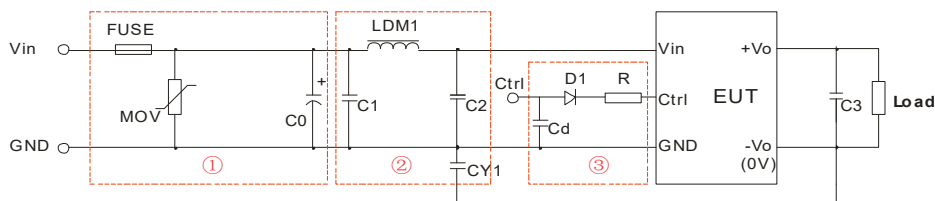

Fig 3
RE	CISPR32/EN55032 CLASS B (see Fig. 3-② for recommended circuit)
- ① Part ① in Fig. 3 is used for EMS test while part ② is used for EMI filtering; and parts ① and ② may be selected based on needs.
- ② V_C is the voltage of the Ctrl end relative to the GND of the input grounding; V_D is the positive-going conduction pressure drop of D1; I_C is the current flows into the Ctrl end and its value is generally 5-10mA, see Fig. 3-③ for the peripheral circuit of Ctrl end;
- ③ If there is no recommended parameters, no external component is required.